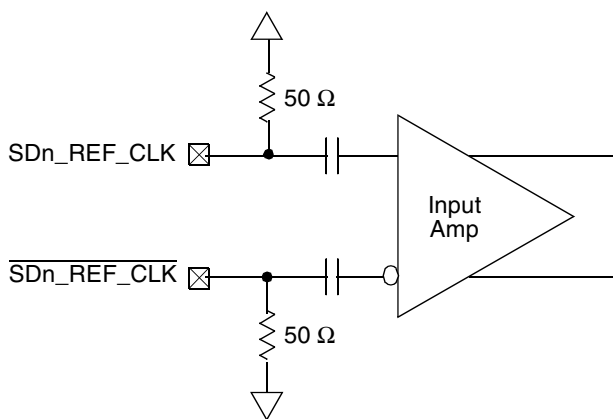

Figure 58. Receiver of SerDes Reference Clocks
Figure 58 shows a receiver reference diagram of the SerDes reference clocks.
- The SDn_REF_CLK and $\overline{SDn_REF_CLK}$ are internally AC-coupled differential inputs as shown in Figure 58. Each differential clock input (SDn_REF_CLK or $\overline{SDn_REF_CLK}$) has a 50- Ω termination to SGND (xcovss) followed by on-chip AC-coupling.